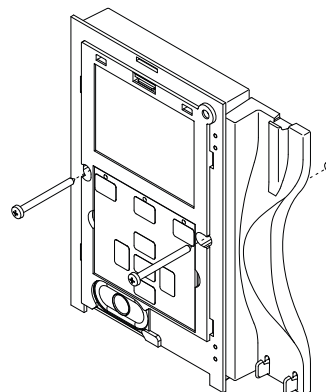

Fig. 3a
3. As shown in **Fig. 3a**, once the wires are connected, fix the videophone to the wall using a Phillips screwdriver and the two screws provided.
In order to avoid malfunctions, please do not over tighten the fixing screws shown in Fig. 3a.